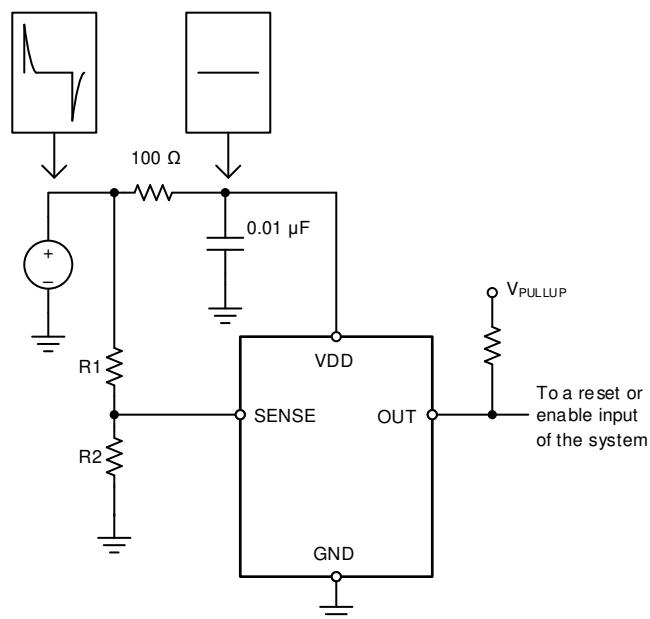

图 7-5. Using an RC Filter to Remove High-Frequency Disturbances on VDD
The TPS3711 has a 40-V absolute maximum rating on the VDD pin, with a recommended maximum operating condition of 36 V. If the voltage supply that provides power to VDD is susceptible to any large voltage transient that may exceed 40 V, or if the supply exhibits high voltage slew rates greater than 1 V/ μs , then place an RC filter between the supply and VDD to filter any high-frequency transient surges on the VDD pin. In these cases, a 100- Ω resistor and 0.01- μF capacitor are required, as shown in 图 7-5.
- Avoid using long traces for the VDD supply node. The VDD capacitor (C_{VDD}), along with parasitic inductance from the supply to the capacitor, might form an LC tank and create ringing with peak voltages above the maximum VDD voltage. If long traces are unavoidable, see 图 7-5 for an example of filtering VDD.